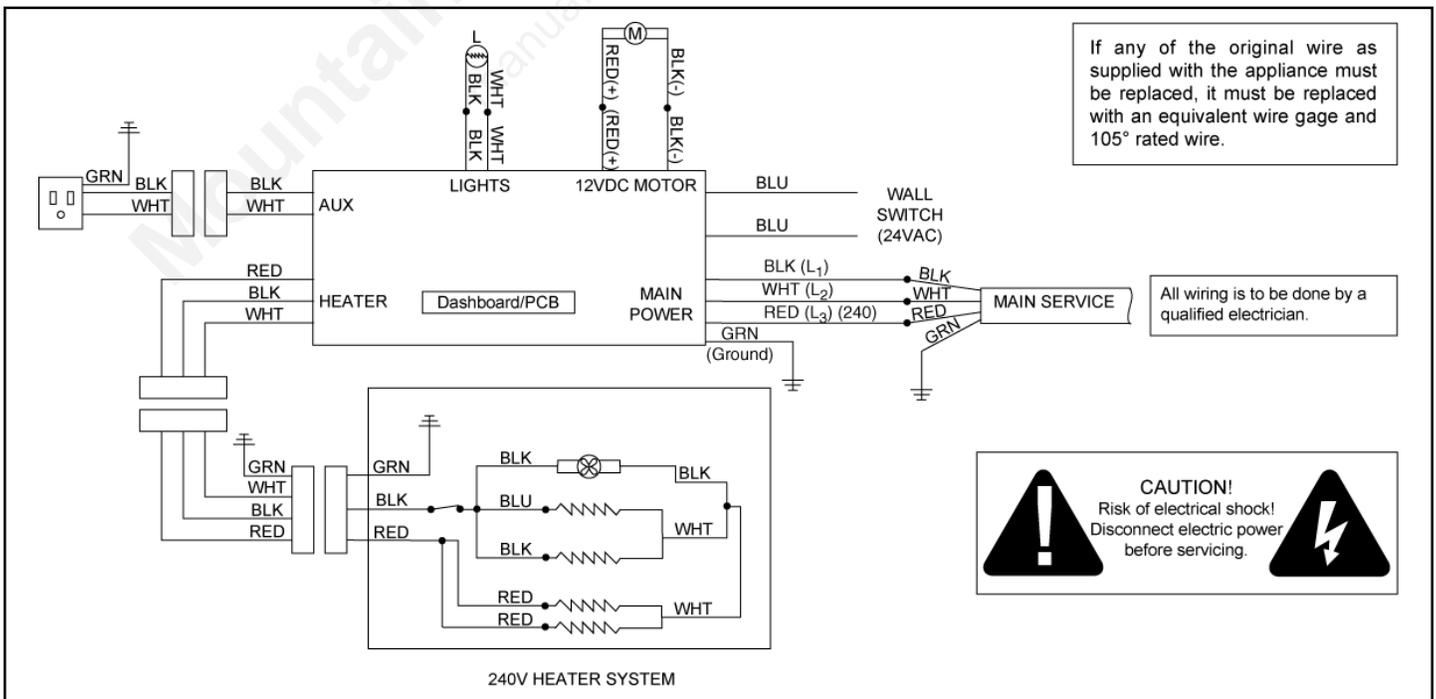

Figure 4 - 208V/240V Wiring Diagram
- 6) Connect black (L₁), white (L₂) and red (L₃) wires of the appliance to the black, white and red wires from the service. Connect green (ground) wire from appliance to the ground of the service. See Figure 4.